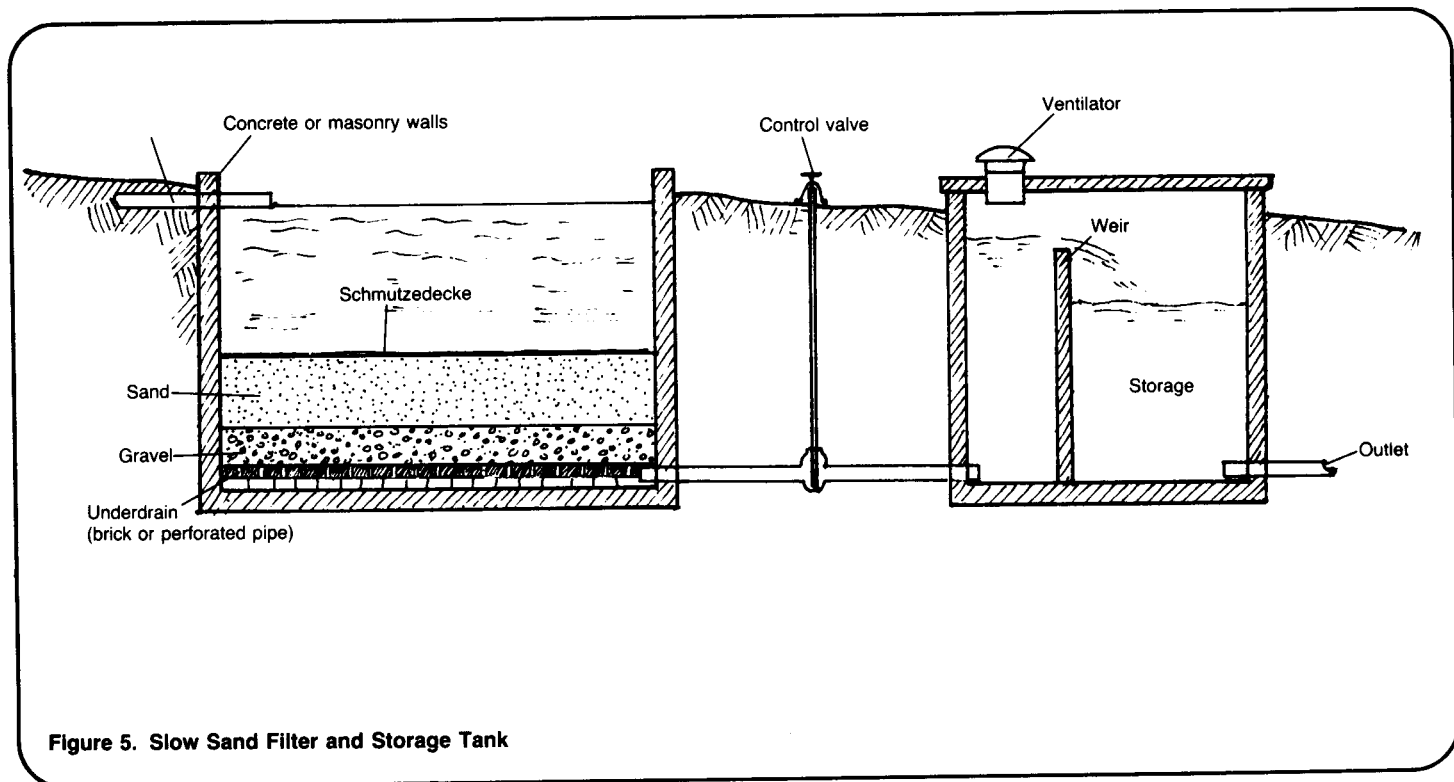

Figure 5. Slow Sand Filter and Storage Tank
**Slow sand filter.** A slow sand filter shown in Figure 5, removes almost all bacteria from and clarifies large water supplies with low turbidity. It is often used in conjunction with a plain sedimentation basin for highly turbid water. It consists of a steel drum or large concrete tank partially filled with layers of small stones and very fine sand. The filter tank is flooded with water which slowly seeps through the sand. After several days, a thin slime called a schmutzedecke forms on top of the sand. The